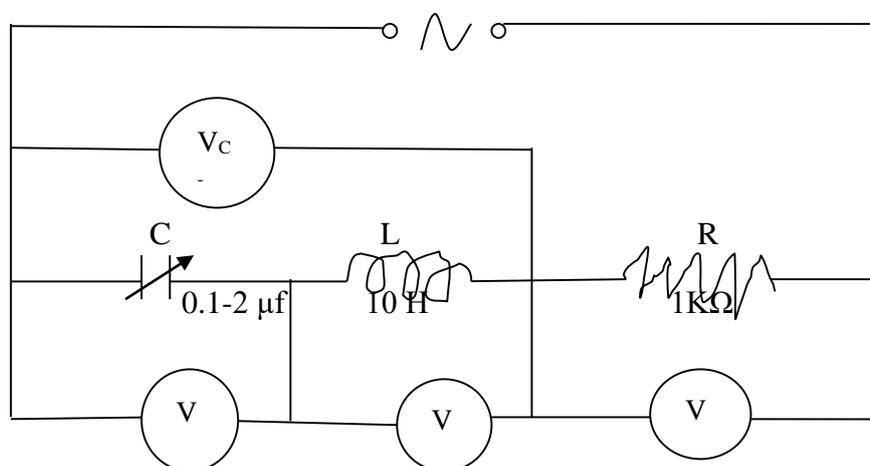

Figure 1
- (i) We make electrical connections as shown in figure 1.